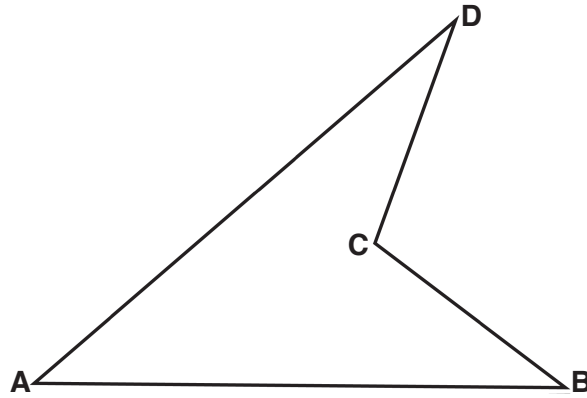

Fig. 3
- 4 Fig. 3 shows a polygon **ABCD**.